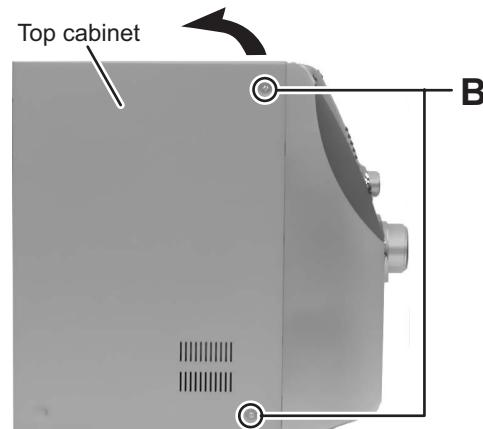

Fig.2
- (2) From the both side of the main body, remove the four screws **B** attaching the top cabinet. (See Fig.2.)
- (3) Remove the top cabinet from the main body while lifting the rear section of the top cabinet in the direction of the arrow. (See Fig.2)